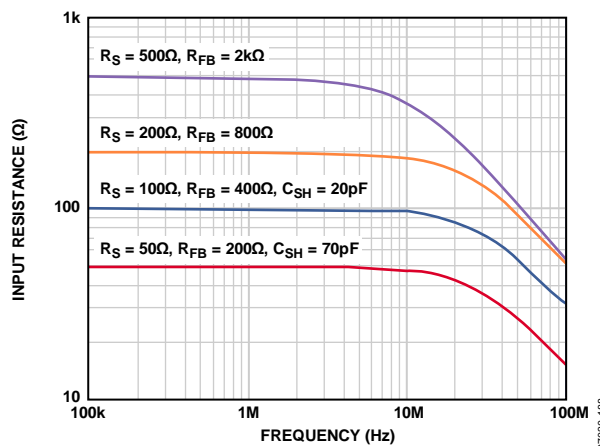

Figure 40. R_{IN} vs. Frequency for Various Values of R_{FB} (Effects of R_S and C_{SH} Are Also Shown)
The bandwidth (BW) of the LNA is greater than 100 MHz. Ultimately, the BW of the LNA limits the accuracy of the synthesized R_{IN} . For $R_{IN} = R_S$ up to about 200 Ω , the best match is between 100 kHz and 10 MHz, where the lower frequency limit is determined by the size of the ac-coupling capacitors, and the upper limit is determined by the LNA BW. Furthermore, the input capacitance and R_S limit the BW at higher frequencies. Figure 40 shows R_{IN} vs. frequency for various values of R_{FB} .